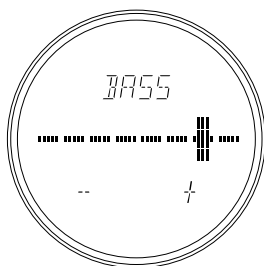

Fig.2
2. Within approx. 5 seconds, turn the **JOG** control to the left to decrease, or to the right to increase step by step. You can both increase and decrease the tone for 5 step. (Fig.2) To cancel the tone adjustment operation, press the **ENTER** button .